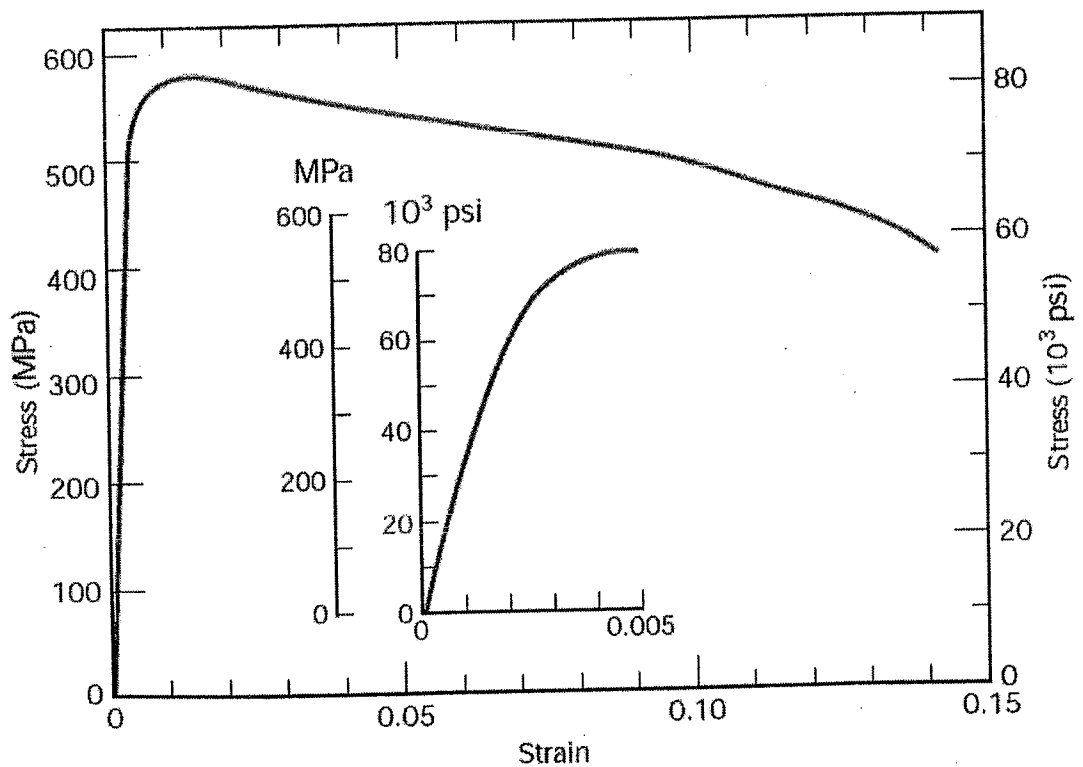

Figure 01
3. a. Figure 01 below shows the tensile stress-strain behavior for a metal alloy. For this material:
ii. Calculate the moduli of resilience for the material having the stress-strain behavior shown in above Figure 01.